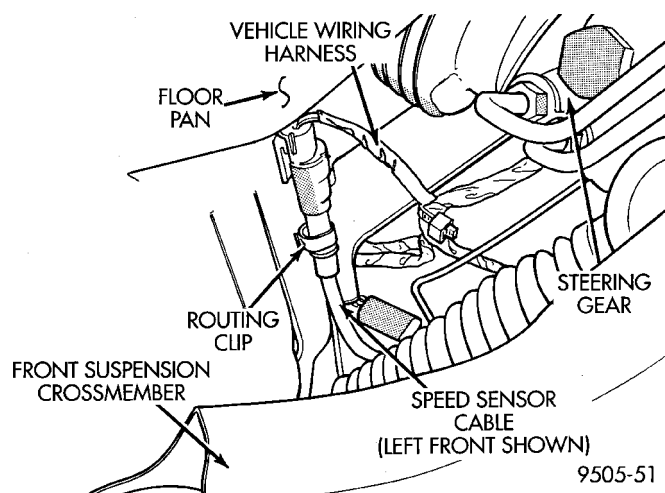

Fig. 30 Speed Sensor Cable To Wiring Harness Connection
(1) Raise vehicle on jack stands or centered on a frame contact type hoist. See Hoisting in the Lubrication and Maintenance section of this manual, for the required lifting procedure to be used for this vehicle.
(2) Remove the tire and wheel assembly from the vehicle.
(3) Unplug speed sensor cable connector (Fig. 30) from vehicle wiring harness. Remove clip (Fig. 30) attaching speed sensor cable connector to vehicle body.
(1) Connect the wheel speed sensor cable connector to the vehicle wiring harness (Fig. 30).